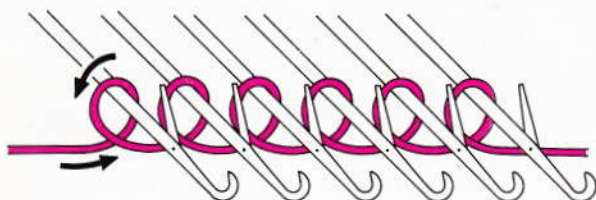

Fig. 52
- Starting from the left-hand side, with the right hand wind the yarn under the needle and round over the top (fig. 52).